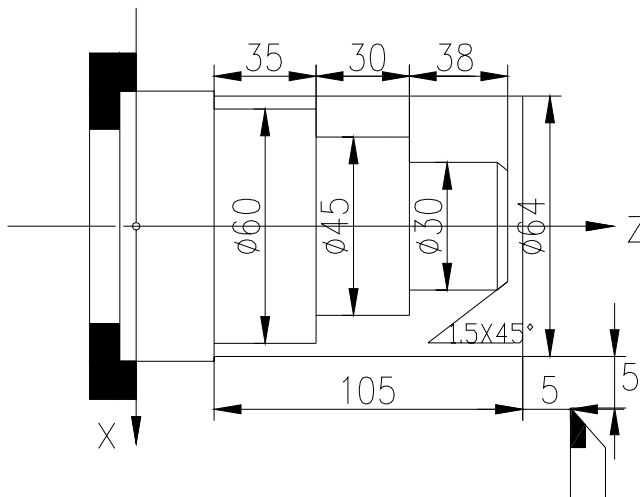

Fig. 5-2 Outer machining example
**Example 1:** Workpiece in Fig. 5-2. Bar:  $\Phi 64 \times 105$  mm. No. 1 tool is used for roughing, No. 2 for finishing. (G90 inner/outer cylindrical surface turning cycle).